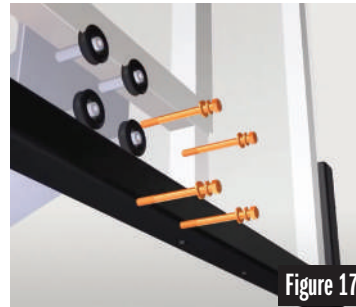

Figure 17
STEP 10: Remove hardware from the rim connection tubes on the Extension Arm. See Figure 17.